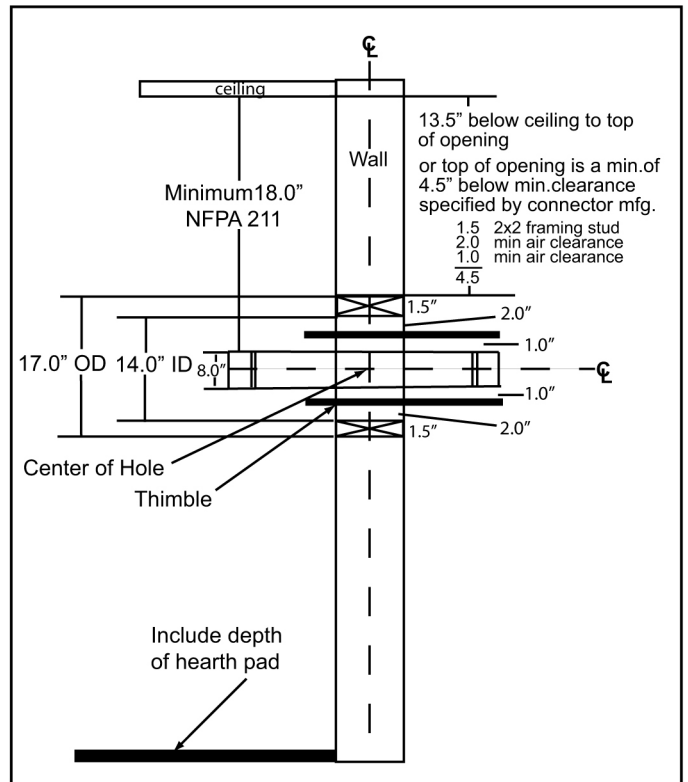

Figure 6.1
minimum clearance specified by chimney connector manufacturer. NFPA 211 minimum vertical clearance of 18 inches (457mm) from chimney connector and ceiling or minimum recommended by chimney connector manufacturer. **Figure 6.1.**
1. Open inside wall at proper height for the chimney connector to entry the masonry chimney. **Figure 6.1.**
- less than 14 inch x 14 inch (56mm x 56mm). **Figure 6.1.**